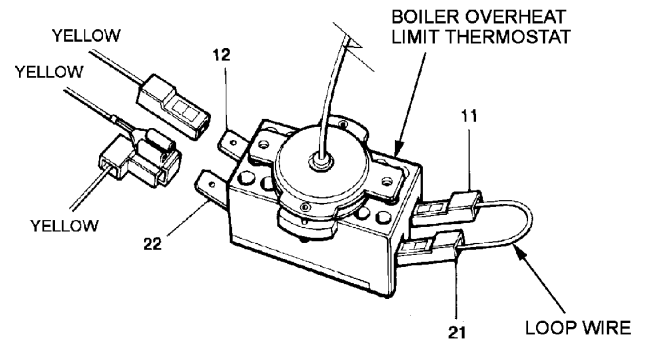

fig. 32
SEE FIG. 32
4. Re-connect push on connector wires, as Fig. 32.